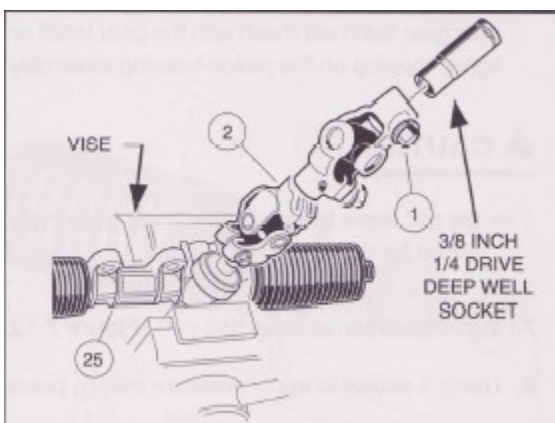

Figure 7-15 Rack and Pinion Resistance
Insert a 3/8 inch deep well socket into the steering column end of the universal joint (2) and tighten the bolt (1) to 15 ft-lb (20.3 Nm) (Figure 7-15).